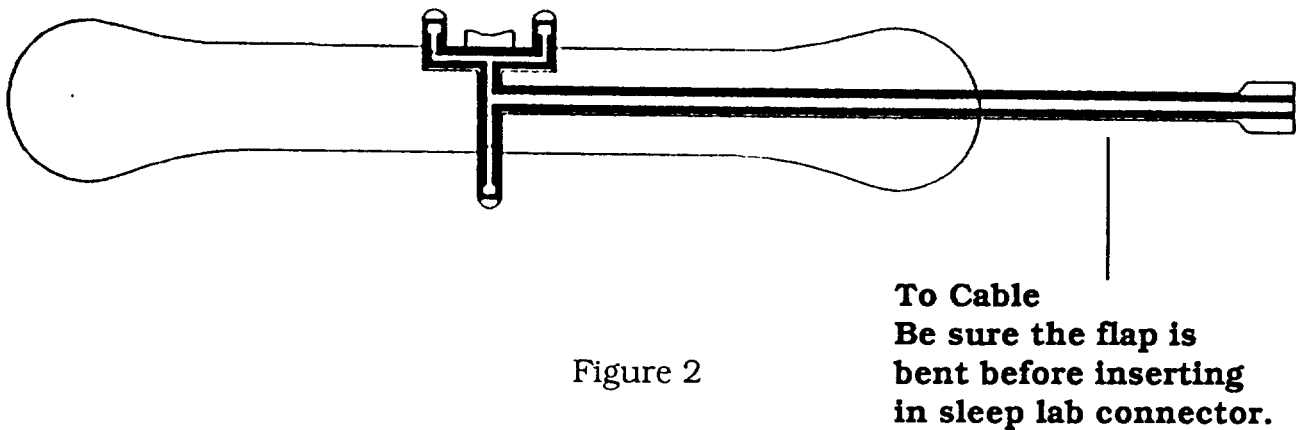

Figure 2
1. Attach the Model 3170 Sleep Lab Airflow Cable to the appropriate size Model 970 series airflow sensor. (Figure 2).